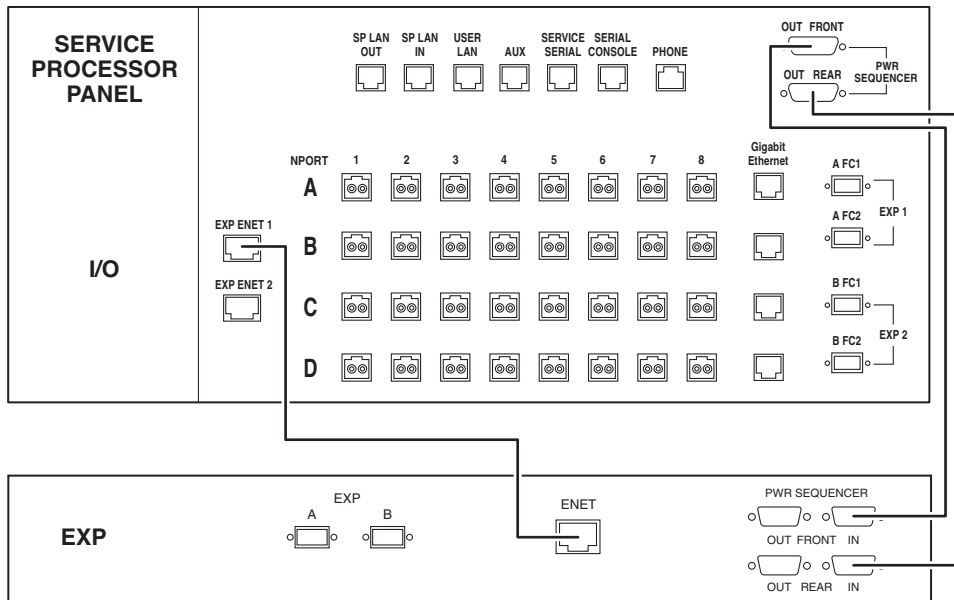

FIGURE B-4 Ethernet and Power Sequencer Cabling Between the Base Cabinet and Expansion Cabinet 1
1. If you are connecting one expansion cabinet, connect one Ethernet cable (10M RJ-45/RJ-45 Rollover, part number 530-3138-01) and two power sequencer serial cables (P/N 530-3210-01) between the base cabinet and expansion cabinet as shown in FIGURE B-4.